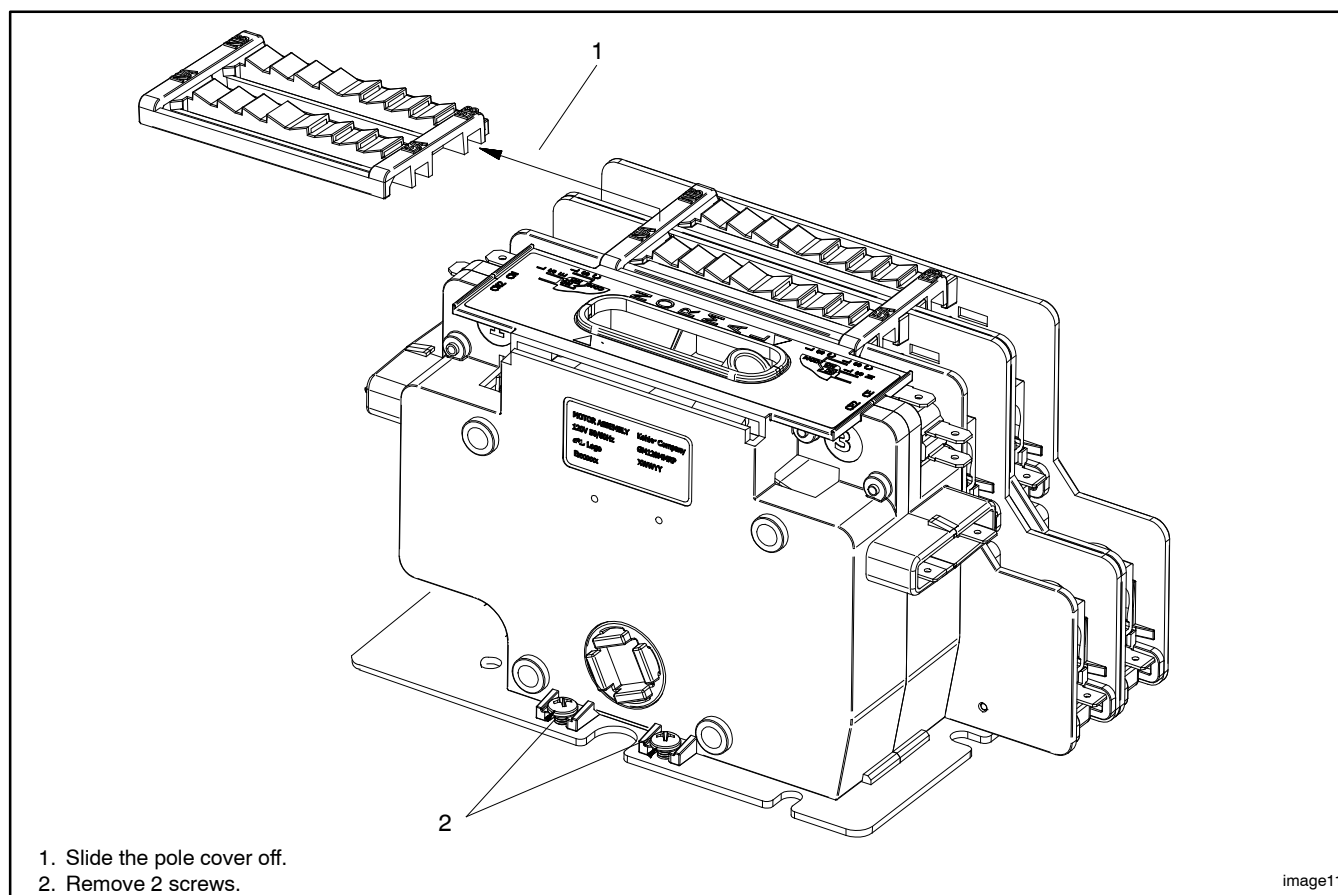

Figure 7-24 Preparing to Remove the Motor
3. Slide the pole cover out from its location as shown in Figure 7-24.
4. Remove the 2 screws as shown in Figure 7-24.